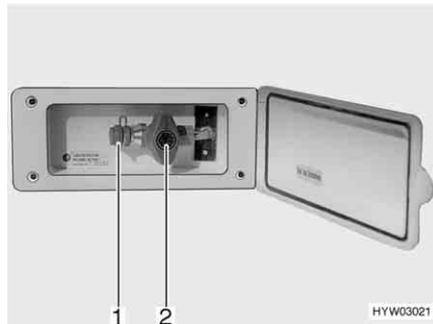

Fig. 91 External gas connection, gas isolator tap closed
The external gas connection (Fig. 91) is located at the rear or to the left or right of the vehicle depending on the model.
- Connect the external gas device to the connection point (Fig. 91,1).
- Open the gas isolator tap (Fig. 91,2).